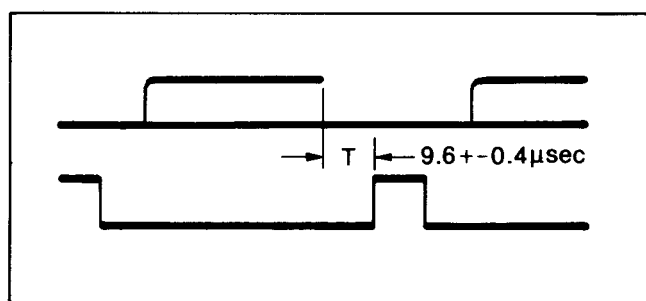

Fig. C33
- (1) Set the AF Gate Control (C656) as shown in Fig. C33